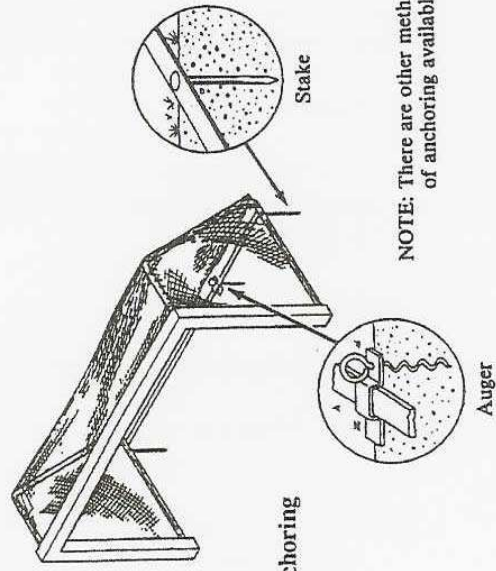

Figure 2: Goal Anchoring
- Securely anchor or counterweight movable goals at all times (figure 2, 3).